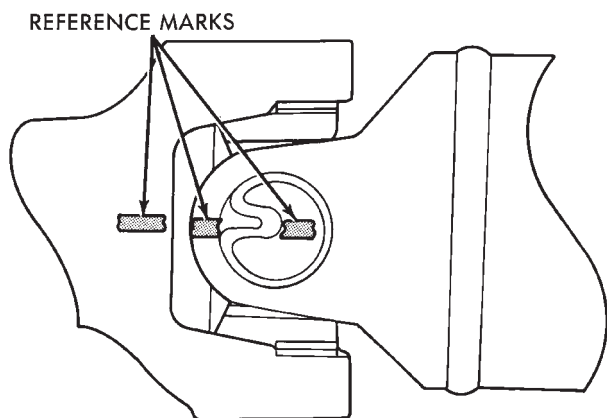

Fig. 10 Align Propeller Shaft And Rear Axle Yokes Alignment Marks
(15) Position transfer case on transmission jack, if equipped.
(16) Secure transfer case to jack with safety chains, if equipped.
(17) Raise transfer case, if equipped, and align transfer case input shaft to the transmission output shaft.
(18) Slide transfer case forward until case is seated on transmission, if necessary.
(19) Install nuts to attach transfer case to transmission, if equipped. Tighten transfer case-to-transmission nuts to 35 N·m (26 ft. lbs.) torque.
(20) Connect transfer case shift linkage at transfer case, if equipped.
(21) Connect transfer case vent hose, if equipped.
(22) Secure wire harnesses in clips/tie straps on transmission and transfer case, if equipped.
(23) Engage wire connectors attached to all necessary transmission or transfer case, if equipped, components.
(24) Install rear propeller shaft slip yoke to transmission or transfer case, if equipped, output shaft.
(25) Align marks on rear propeller shaft and rear axle yokes (Fig. 10).